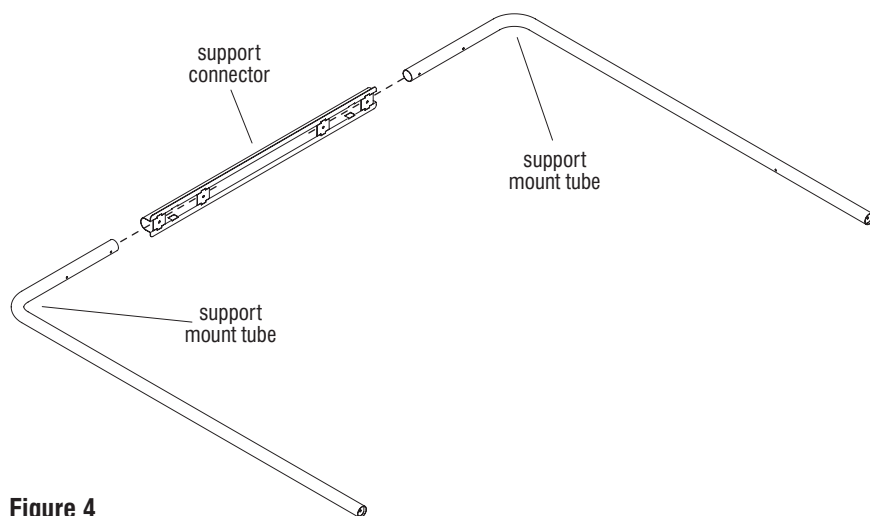

Figure 4
1. Locate two divider mount tubes and orient them with the bent ends facing each other as illustrated in Figure 4.
2. Insert the bent end of one divider mount tube into the divider connector opening until the mounting holes on the tube align with the mounting holes on the underside of the connector. Secure together using two 1/4-20 x 5/8" Torx pan head screws. Repeat this step to secure the second divider mount tube to the opposite end of the divider connector (Figure 4 & Detail D).